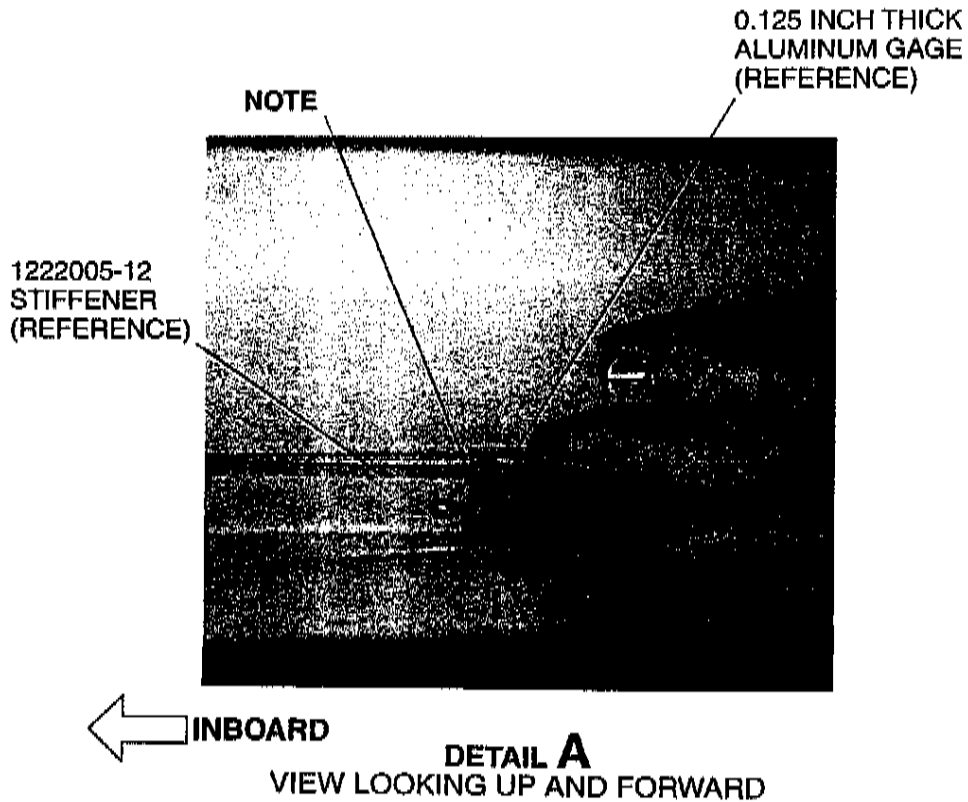

Figure 1. Wing Spar Inspection (Sheet 1)
- C. (Refer to Figure 1, Sheet 1, Detail A) Locate the end of the 1222005-12 Stiffener by looking up through the aileron bellcrank access hole.